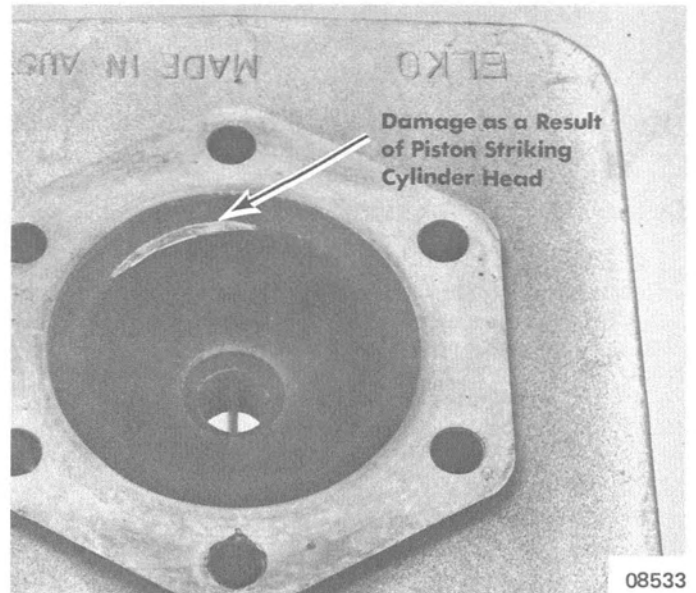

Figure 2. Damaged Cylinder Head
4. Inspect internal surface of cylinder heads for possible damage as a result of pistons striking cylinder heads. (Figure 2)